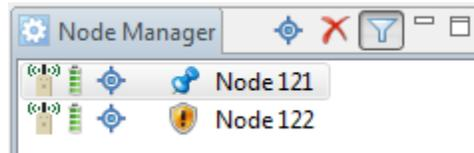

Figure 11: Node Manager Panel
- *Node Manager Panel* – This panel includes a list of ARGUS GUARDIAN nodes and their status (see *Figure 11*). Each row in the list indicates the state of one node in the system, including battery status and GPS status.